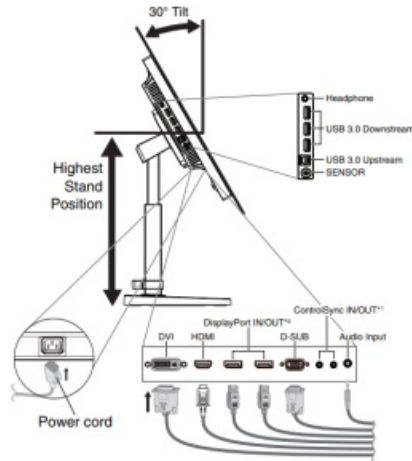

Figure C.1
4. Connect all cables to the appropriate connectors (Figure C.1). When using the USB cable, connect the B type connector to the USB upstream port on the right back side of the monitor and the A type connector to the
5. When using an optional sensor, connect the stereo micro plug cable to the SENSOR (Figure C.1).